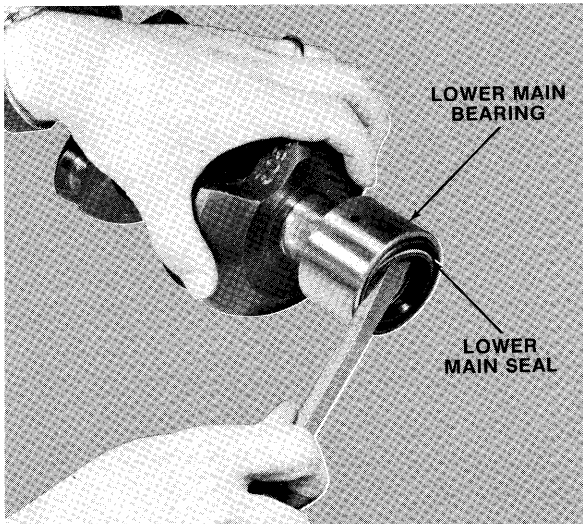

Figure 9—Prying Seal Out of Bearing
- N. To remove crankshaft lower seal, re-install lower main bearing assembly on end of crankshaft and insert screwdriver between seal and bearing. Twist screwdriver and pry seal out of bearing case as shown in figure 9.